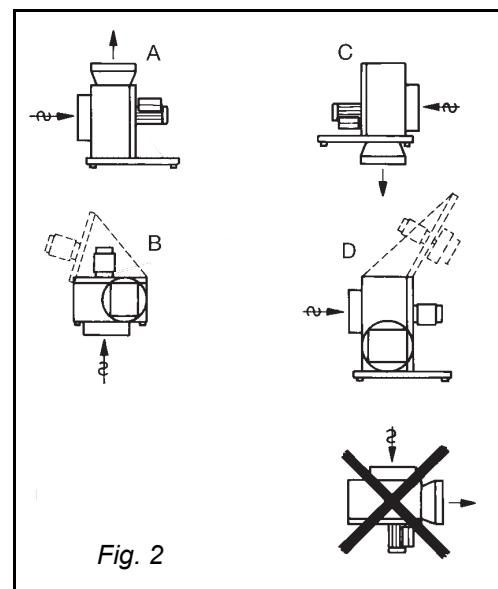

Fig. 2
There are various ways of fitting the ventilator indoors (Fig. 2).
- BESB 400 and 500:** When using fitting method B (Fig. 2/4) for BESB 400 and 500, holes ($\varnothing 16$ - $\varnothing 20$) are bored in the cabinet for the fitting of the mounting bars.
The motor is fitted with a thermal cut-out. The thermal-cut out is factory installed and wired in series to the motor's power circuit (electrical diagram in the terminal box fig. 1). Use the circuit diagram (Fig. 2) if a manual reset is required after a thermal cut-out, where the thermal cut-out is used as a contact in the control circuit.